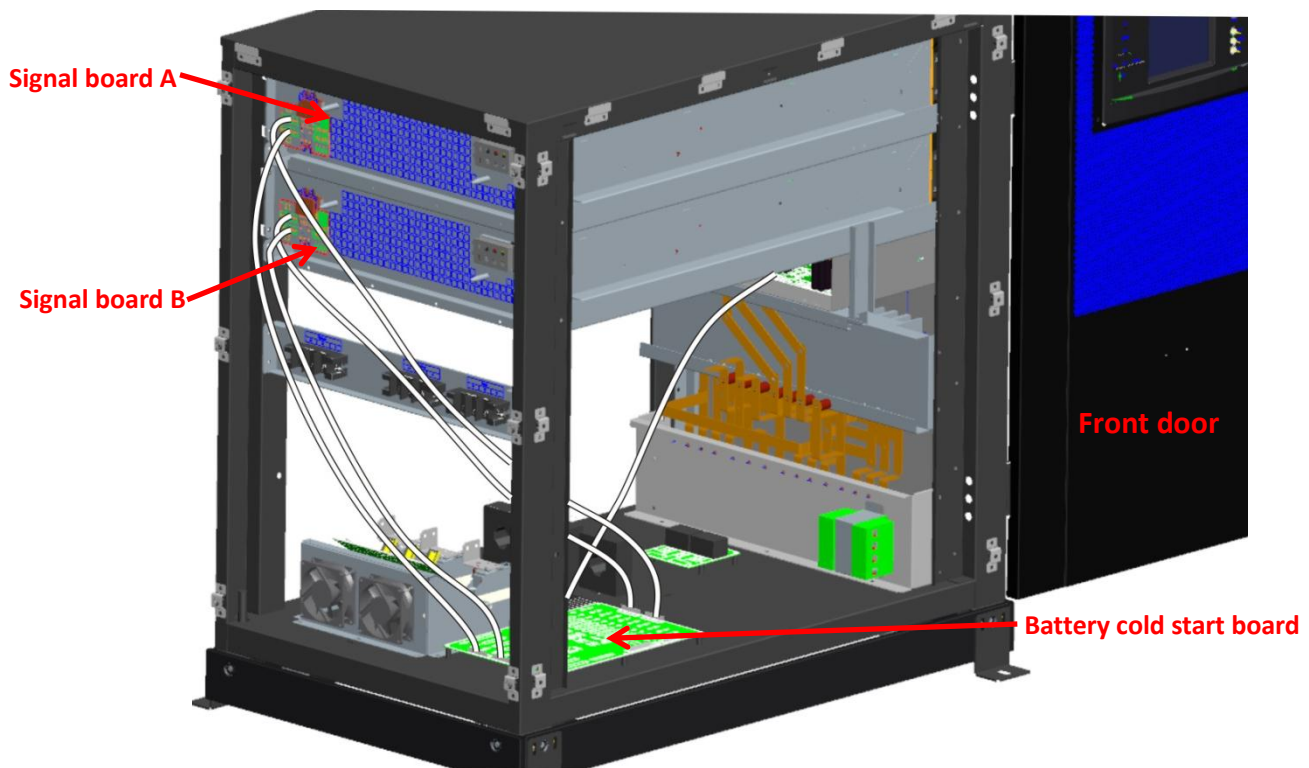

Figure 1 Cable connection
1. Remove the cabinet cover (Left, right and back), and install the battery cold start board, as is shown in figure 1.